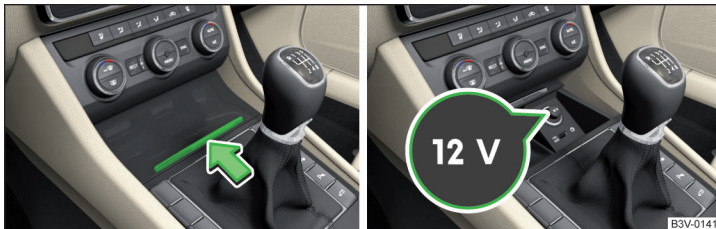

Fig. 104 Open storage compartment / cover of the 12 volt power outlet
- To use, open the storage compartment by pressing on the edge of the cover in the direction of the arrow » Fig. 104.